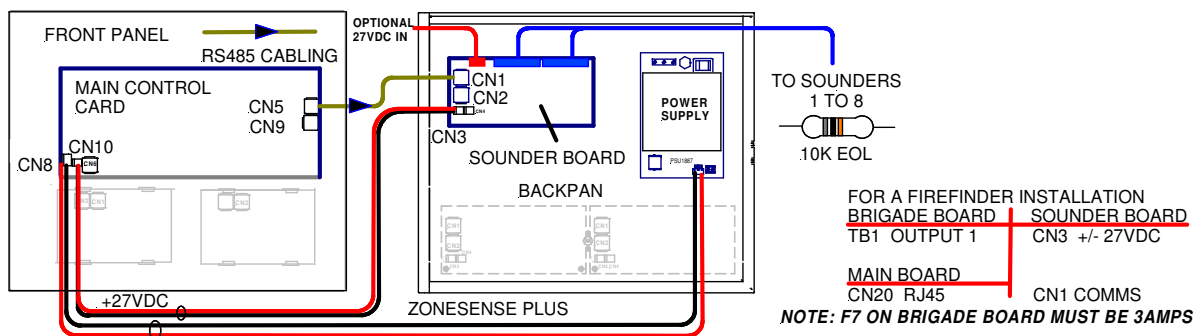

Figure 2: Internal Cabling of the FACP
1. Mount the board on suitably spaced backpan standoffs using the 4 x M3 x 8mm screws. See Figure 2 for available mounting locations